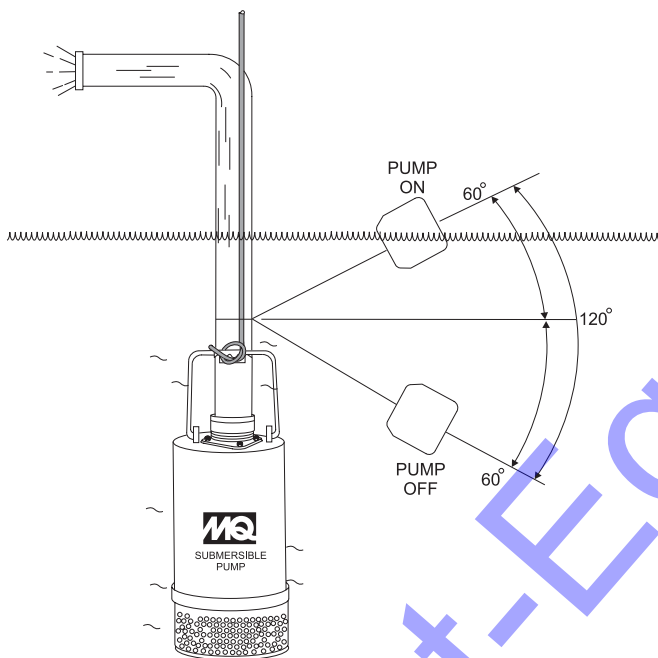
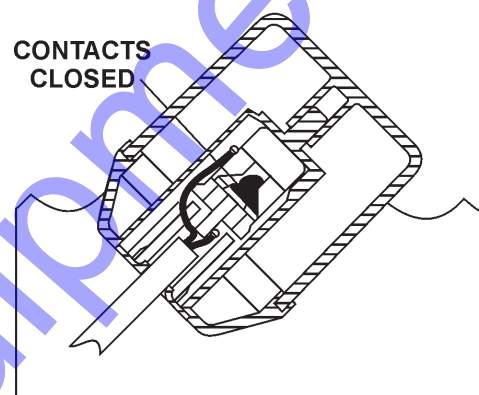
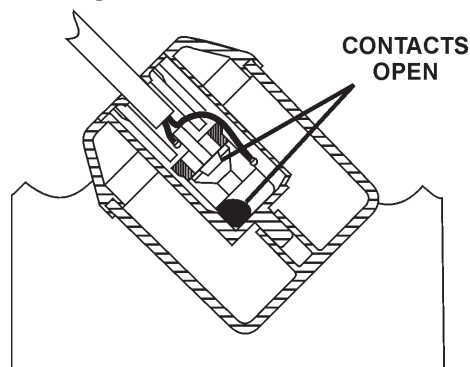

Figure 3. Pumping Range (Float Switch)
Figure 4. Float Switch (Closed)
Figure 5. Float Switch (Open)
There is a tilt-sensitive mercury switch hermetically sealed within each float. As the liquid level (water) rises or falls, the float changes its angle until the mercury switch makes (closed, Figure 4) or breaks (open Figure 5) the circuit. Maximum pumping range is 120 degrees. See Figure 3 below.
3. Secure the clamp to the discharge hose as shown in Figure 5. **DO NOT** install cord under hose clamp.
3. Determine the length of the float switch wires, then secure float switch wires to pump discharge hose. See Figure 5 and Table 3 to determine the pumping range.